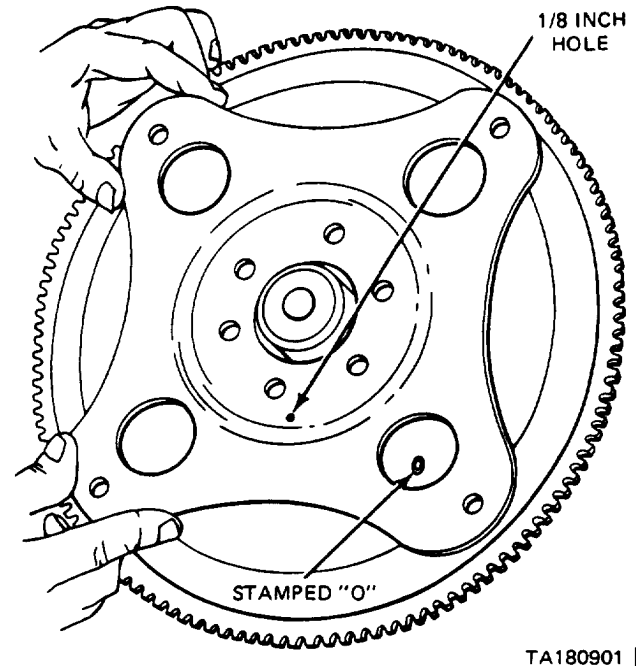

Figure 4-39. Converter and Drive Plate Markings.
f. Rotate the converter so that the mark made during removal will align with the mark on the drive plate. The offset holes in the plate are located next to a 1/8-inch hole in the inner circle of the plate. A stamped O mark identifies the offset hole in the converter front cover (figure 4-39). Carefully work the transmission assembly forward over the engine block dowels with the converter hub entering the crankshaft opening.